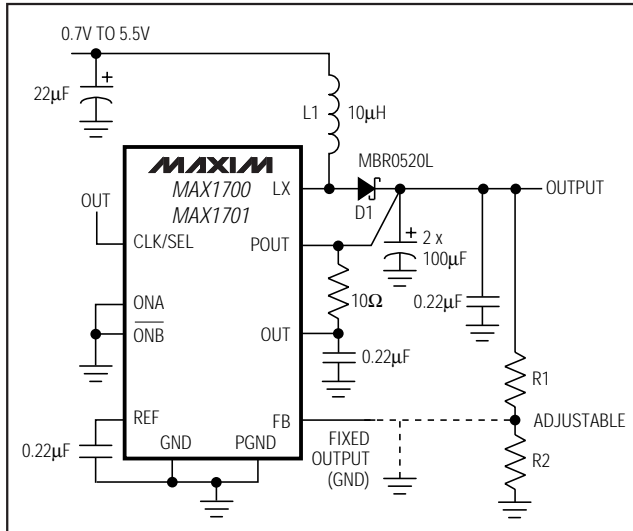

Figure 2. Fixed or Adjustable Output (PWM mode).
**Note 2:** Start-up is tested with the circuit of Figure 2.
power operation, as well as low-quiescent current for maximum battery life during standby and shutdown modes. They feature constant-frequency (300kHz), low-noise PWM operation with up to 800mA output capability. See Table 1 for typical available output current. A low-quiescent-current, low-power mode offers an output up to 100mA and reduces quiescent power consumption to 200μW. In shutdown mode, the quiescent current is further reduced to just 3μA. Figure 2 shows the standard application circuit for the MAX1700/MAX1701.
Set the output voltage between 2.5V and 5.5V by connecting a resistor voltage-divider to FB from OUT to GND, as shown in Figure 2. The resistor values are then as follows: